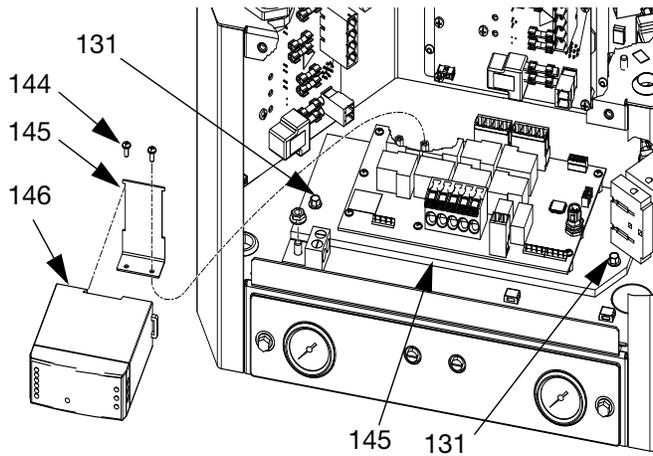

FIG. 49: AWB and Power Supply
3. Remove 2 screws (131) securing AWB (143) to electrical enclosure (1) then carefully remove AWB.
4. Remove power supply (146) from power supply bracket (145) by releasing mounting tab on the side of the power supply. See FIG. 49.
5. Remove two screws (144) securing power supply bracket (145) to AWB (143) and remove power supply bracket. See FIG. 49.
1. Use two screws (144) to secure power supply bracket (145) to new AWB (143). See FIG. 49.
2. Mount power supply (146) to power supply bracket (145). See FIG. 49.
3. Connect connector (labeled AWB-J1) on power supply harness (147) to J1 on AWB (143). See **Electrical Schematics**, page 85.
4. Use two screws (131) to install AWB (143) to electrical enclosure (1). See FIG. 49.
5. Reconnect cables to AWB (143).
2. Remove electrical enclosure front access door (10).
- Disconnect screw terminal connections between power supply (146) and power supply harness (147) according to the following table. See FIG. 49.
- Make connections between power supply harness (147) and new power supply (146) according to the following table:
- Reattach power supply (146) to power supply bracket (145). See FIG. 49.
- Install electrical enclosure front access door (10).